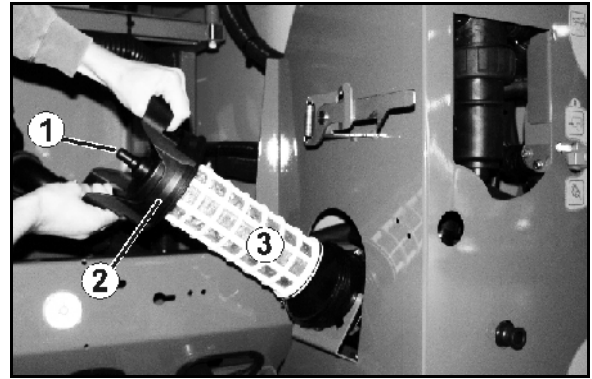

Fig. 115
Clean the suction filter (Fig. 115) on a daily basis after cleaning the field sprayer.
1. Unscrew the cover of the suction filter (Fig. 115/2).
2. Remove the cover with suction filter (Fig. 115/3) and clean with water.
6. Loosen cover plate on the suction filter (Fig. 115/1).
7. Activate relief valve on the suction filter (Fig. 115/2).
8. Remove cover plate and suction filter (Fig. 115/3) and clean with water.